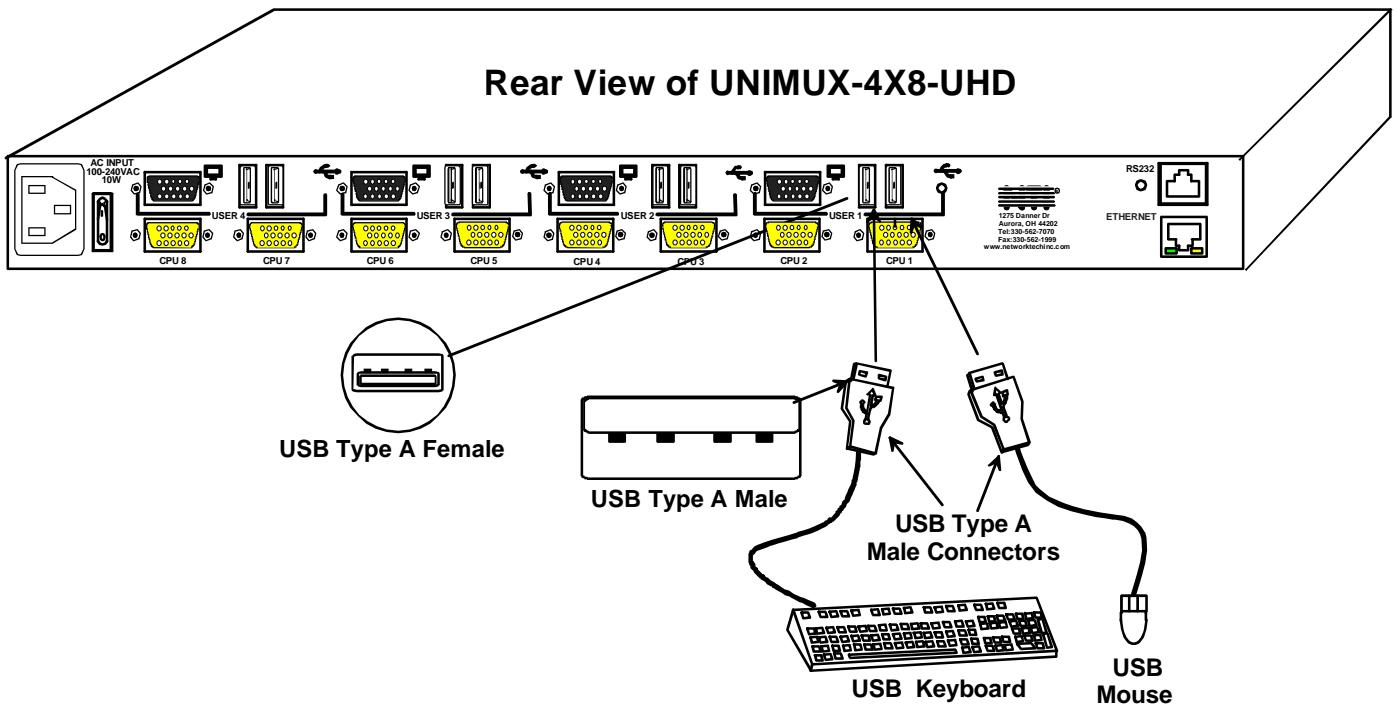

Figure 4- Install user devices (mouse and keyboard)
- Connect the user devices to the USB type A female ports labeled with the USB symbol () on the rear of the UNIMUX switch (see Figure 4). Ensure that the monitors and related user devices are connected to ports from the same device port group.